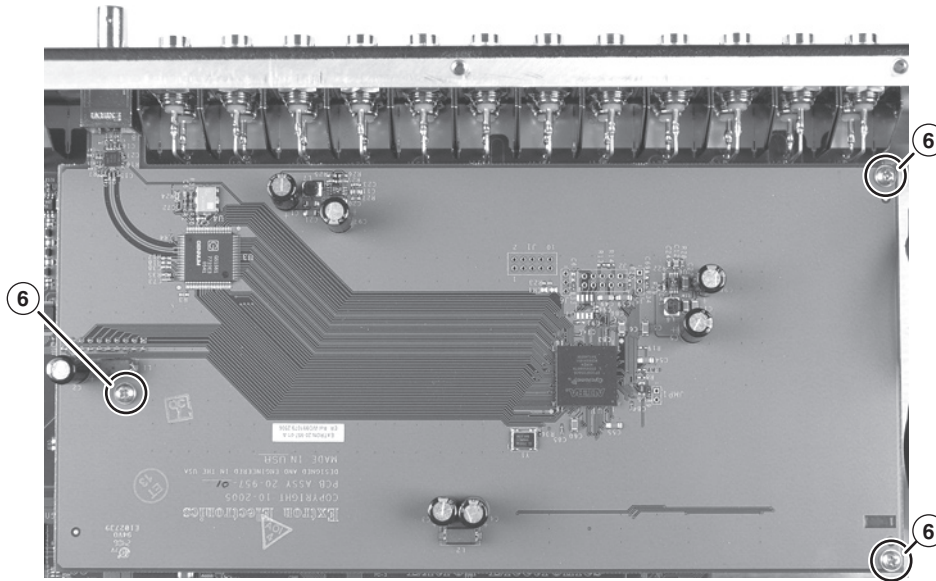

Figure 4 — Secure the input board to the standoffs
6. See figure 4. Secure the board to the standoffs on the main board with the three included screws (Ⓢ).